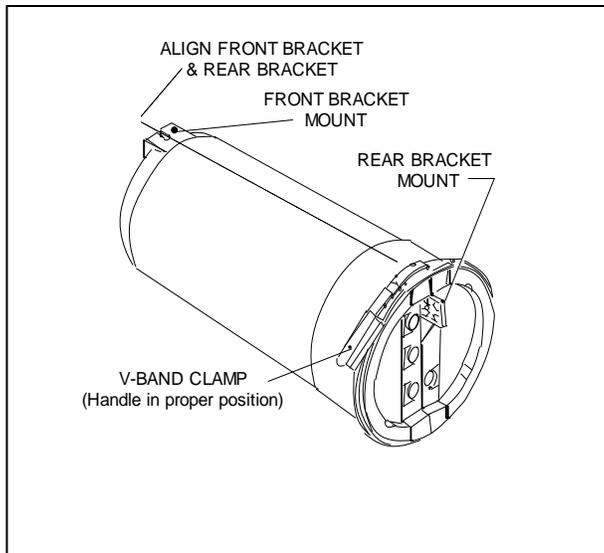

Figure 20 – Aligning of Mounting Brackets
17.04 Install the dome closure over the assembly. The dome nose and base tab should be aligned for proper installation. See **Figures 20, 21** and **Photo #19**.